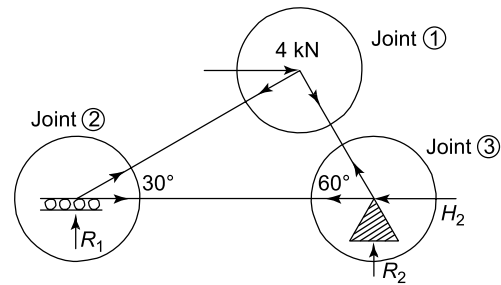
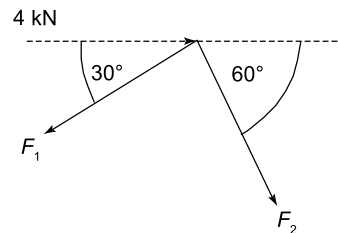

Figure 7.30
Figure 7.31
Firstly, we will assume that all unknown internal forces are in tension, as shown by Figure 7.30.
Next, we will isolate each joint by making imaginary cuts around each joint, as shown by the circles in Figure 7.30; this will result in three free body diagrams. The first free body diagram will be for joint (1), as this joint has two or less unknown forces; see Figure 7.31.